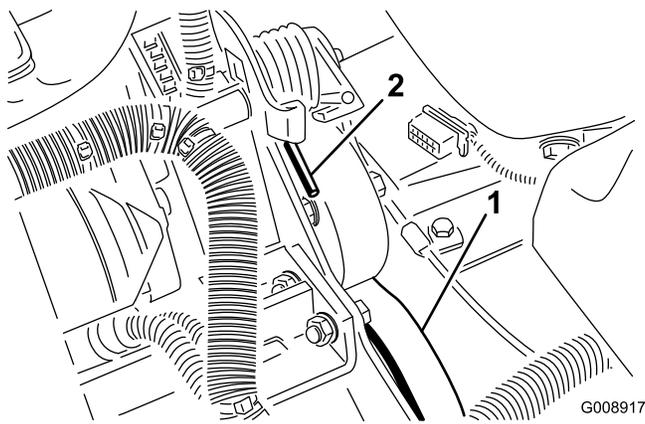

Figure 54
2. Push down and forward on the spring end (Figure 54) to unhook it from the bracket and release tension on the spring.